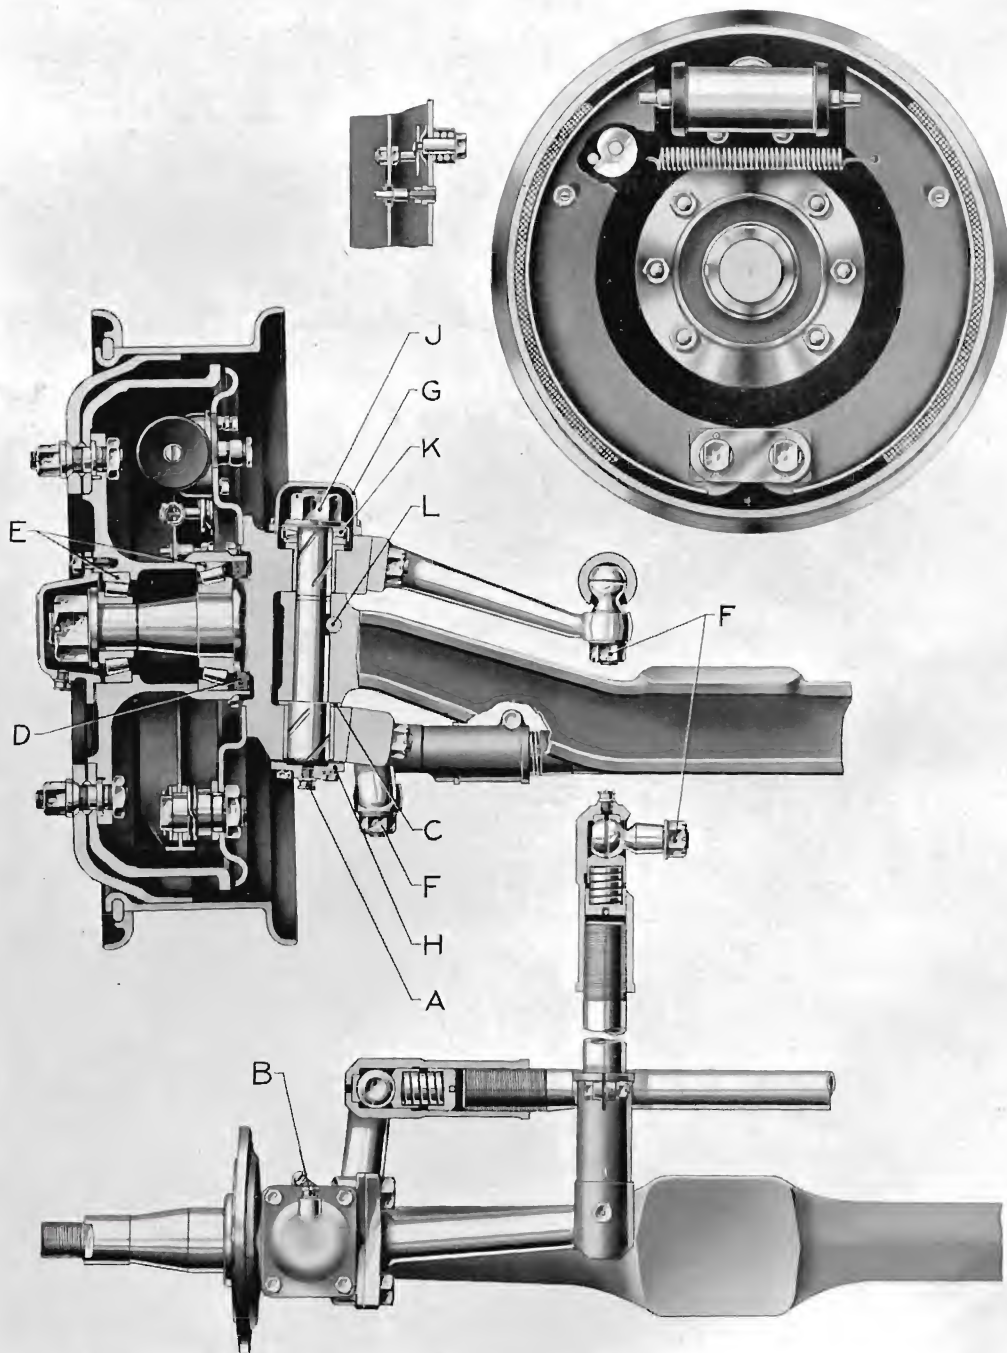

Fig. 2.
The hubs are carried on taper roller bearings (E), Fig. 2, and these should be kept adjusted so that there is not more than .005 in. end play.
Disconnect the steering connections by slacking off the nuts (I), Fig. 2, a few turns and drawing the pins through the steering arms. A drawer is available for this purpose, a hammer should not be used as there is danger of distorting the steering arms. Uncouple the flexible brake pipes, the back plates and brake shoes need not be removed.